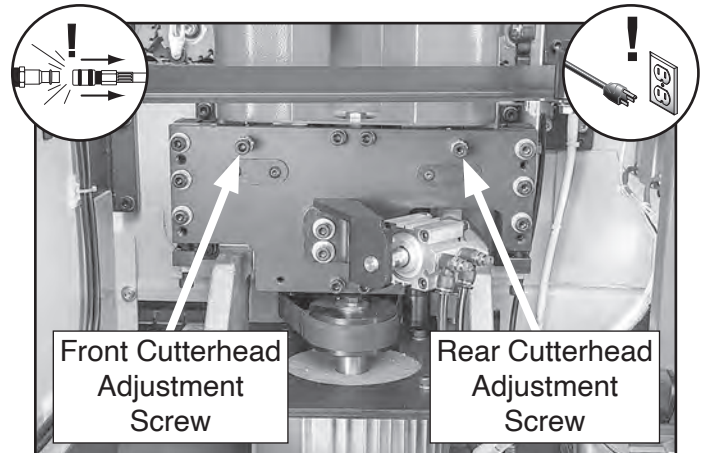

Figure 80. Location of cutterhead rotation adjustment screws.
Over time, the pre-mill cutterheads may experience uneven wear, with one cutterhead potentially wearing down faster than the other. This can result in an uneven cut along the workpiece edge, where the material removed does not match the intended amount—such as when the fence is set to remove 1mm, but either the front or rear end of the workpiece has more or less than 1mm removed. In such cases, or after replacing the cutterheads, it is necessary to adjust the trim amount, which involves fine-tuning the cutterhead rotation. Proper adjustment ensures consistent cutting accuracy. Refer to **Figure 80** for location of cutterhead adjustment screws.
3. Loosen jam nut for appropriate adjustment screw (see **Figure 80**).